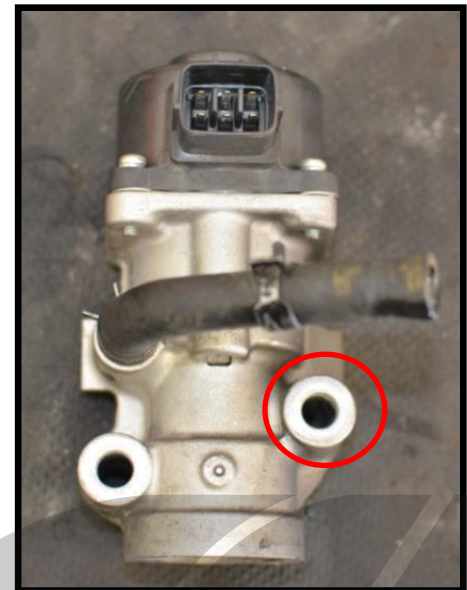

Figure 5c
**If you are using an EGR Delete Plate** in place of the OE EGR Valve you will need to source a correct length bolt for the position shown in Figure 5c.
- c) Remove the 10mm flange bolt circled in red in Figure 5c. Replace the OEM bolt with the provided M8 bolt and washer. Use blue locktight on the threads and torque to 15-22 ft-lbs.
If you are using an EGR Delete Plate in place of the OE EGR Valve you will need to source a correct length bolt for the position shown in Figure 5c.